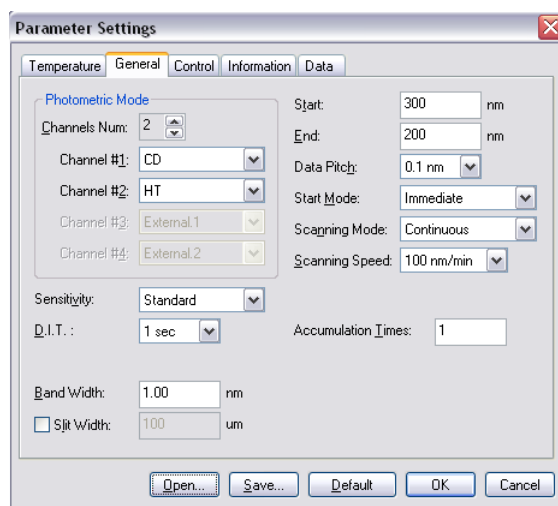

Figure 5.3 [General] dialog box
**Note:** Menus in the [General] dialog box depicted in Figure. 5.3 are the same as those in [Spectra Measurement] except for [Cycle Times] and [Cycle Interval].